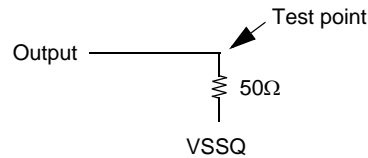

Figure 2 : Pullup slew rate test load
a. Pullup slew rate is characterized under the test conditions as shown in Figure 2.